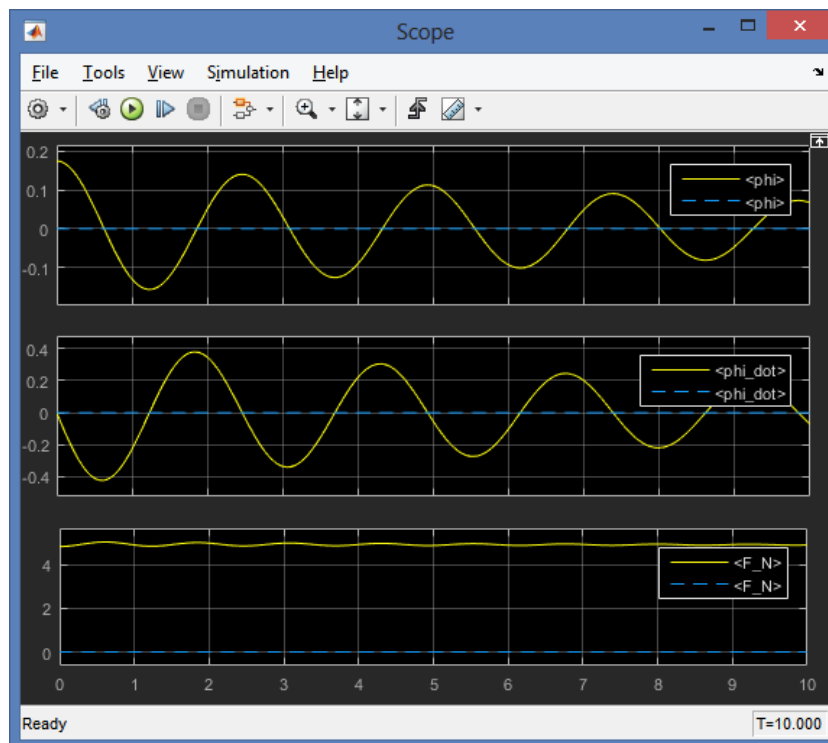

Figure 2-3: Simulation output for non-linear simulation
- (7) Add a second subsystem on the root level, rename it to `visualization`.
- (8) Now the simulation can be run. Ignoring the warnings for now, the Scope should look like Figure 2-3.